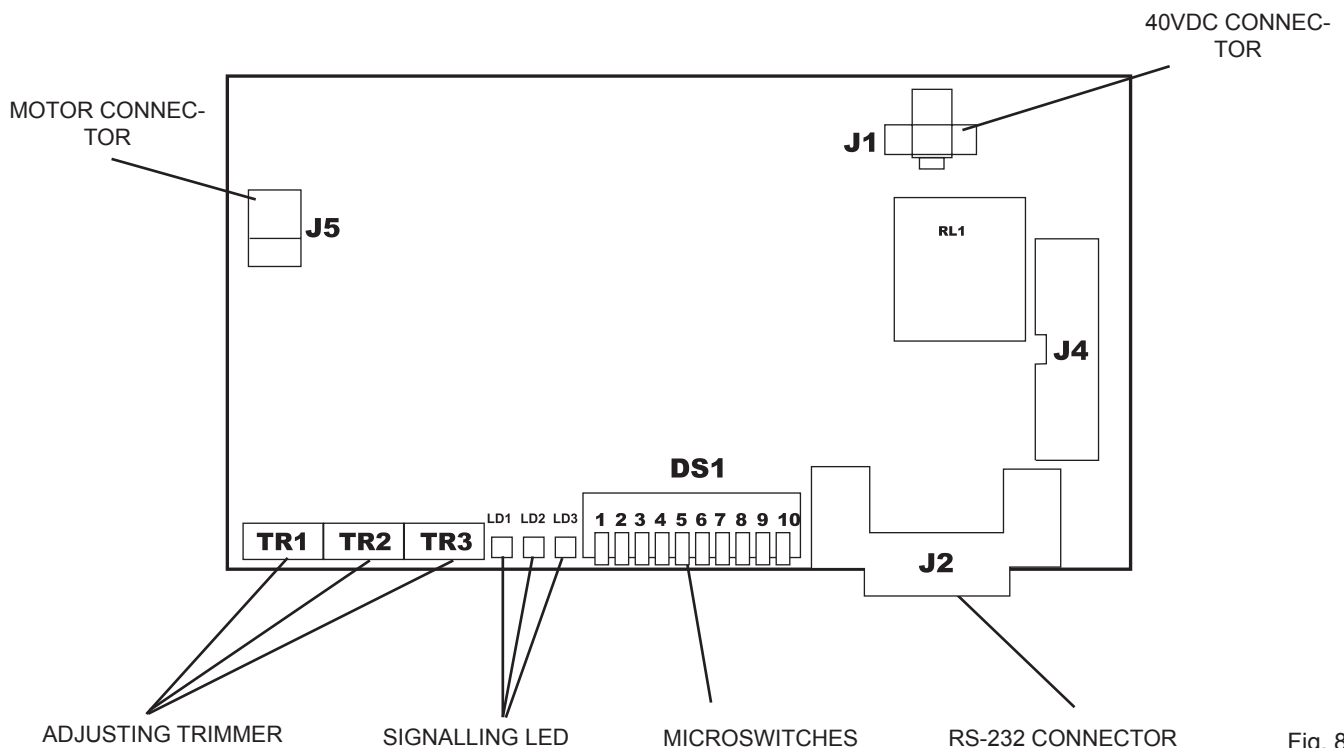

Fig. 8
**5. 950 MPS ELECTRONIC CONTROL UNIT (Fig. 8)**
The programming unit features trimmers (fig.8) which regulate the following parameters: